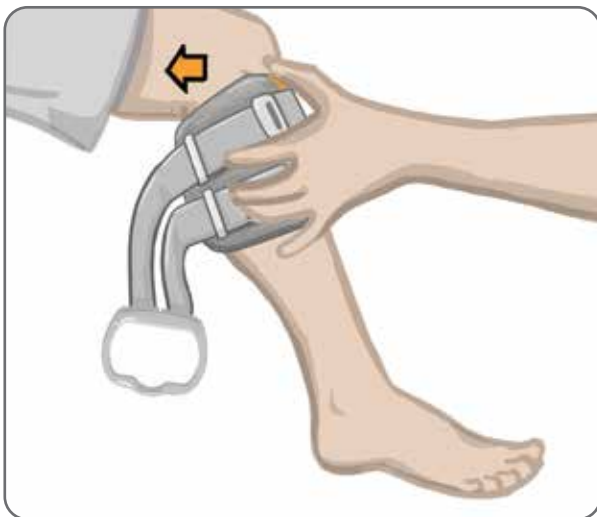

Figure 8-6: Capturing the Electrode Bases
7. Keeping the Lower Leg Cuff open, lower the bottom of the cuff, allowing only the front of the cuff to contact the anterior surface of the tibia. Then wrap the ends of the Lower Leg Cuff around the leg to “capture” the electrode bases. See Figure 8-6.